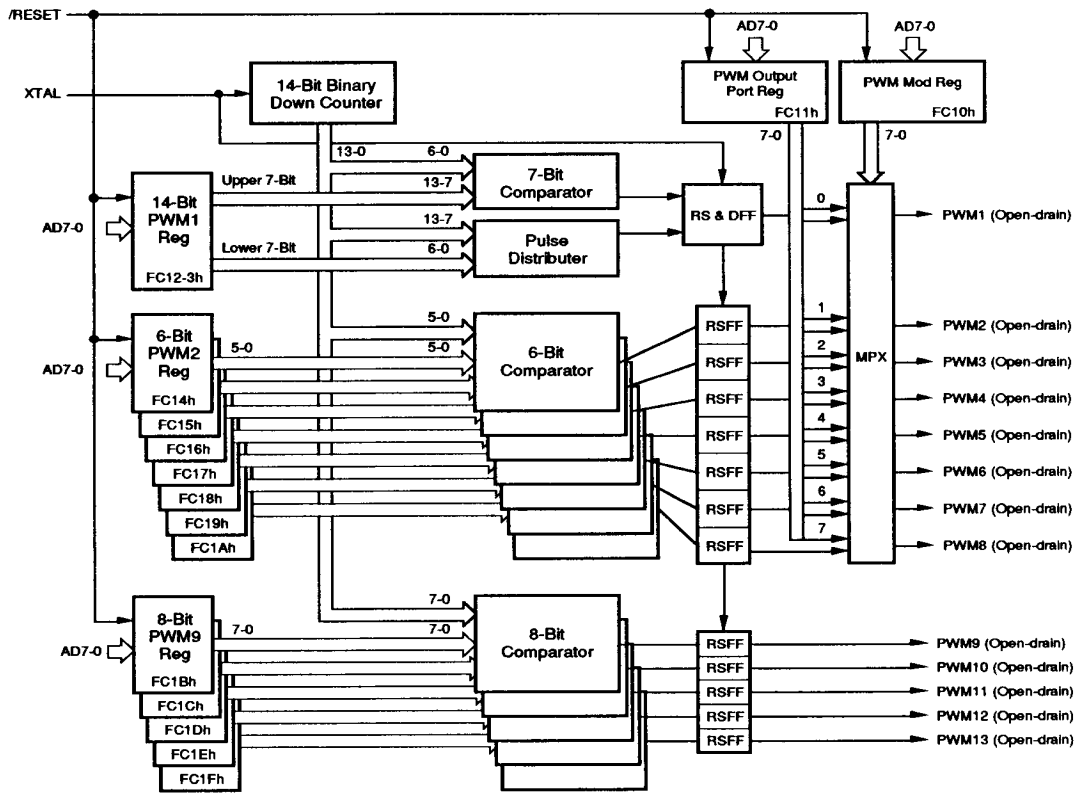

Figure 12. Pulse Width Modulator Block Diagram
**Pulse Width Modulator (PWM).** The DTC has thirteen PWM channels (Figure 12). There are three types of PWM circuits: PWM1 (1 channel of 14-bit resolution) typically used for Voltage Synthesis Tuning, PWM2-PWM8 (7 channels of 6-bit resolution) typically used for audio level